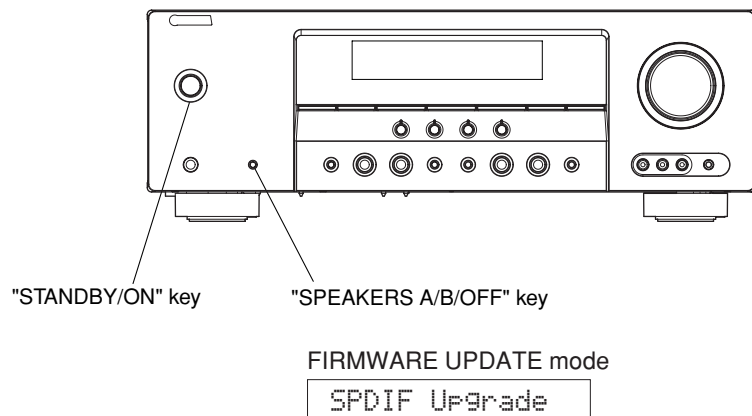

Fig. 2
2. While simultaneously pressing the "STANDBY/ON" and "SPEAKERS A/B/OFF" keys of this unit, connect the power cable of this unit to the AC outlet. (Fig. 2)
The FIRMWARE UPDATE mode is activated and "SPDIF Upgrade" is displayed. (Fig. 2)